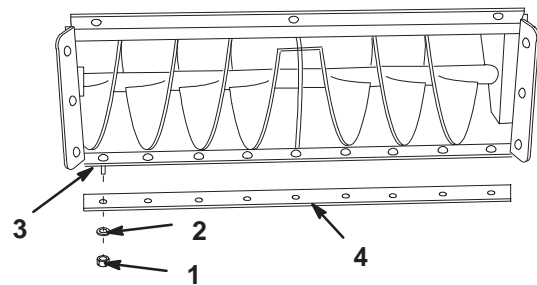

Figure 36
3. Remove nuts, washers, carriage bolts and scraper blade (Fig. 36).
4. Replace scraper blade and install with previously removed hardware (Fig. 36).